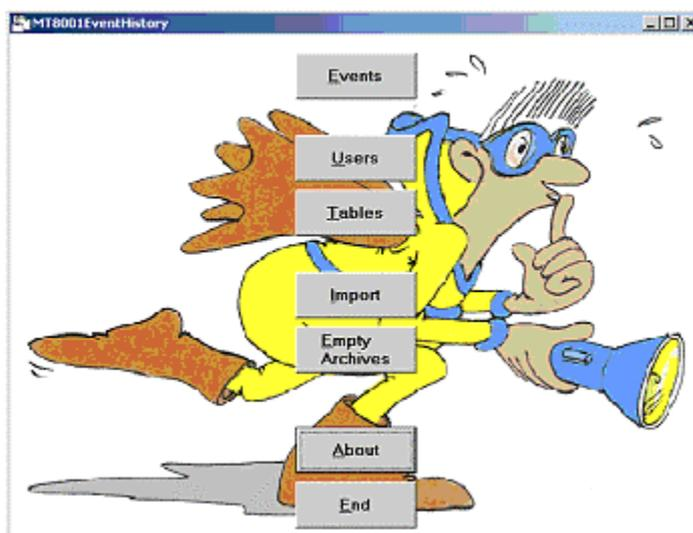

Fig. 5 Main menu window
- From the main window, select the 'Users' button, (see Fig. 5 on p. 11).